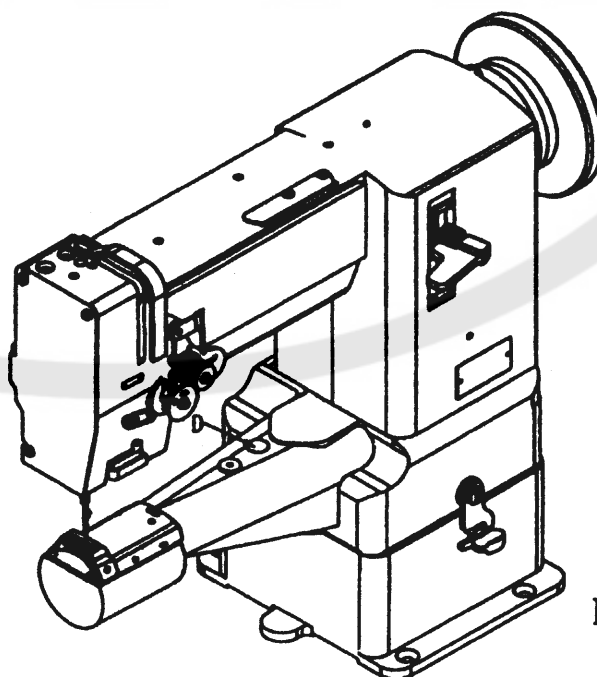

Fig.12
14. RE-SET THE SAFETY CLUTCH MECHANISM: (Fig. 12)